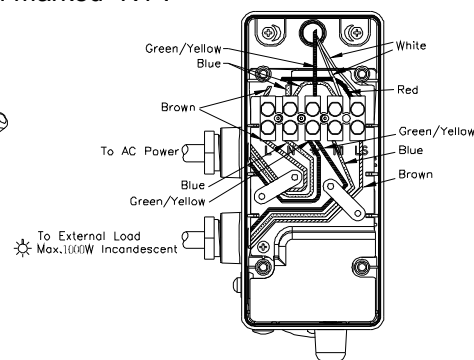

FIGURE 10
3) Strip approximately 6mm of insulation from each of the 3 cores of the supply cable, refer to FIGURE 10.